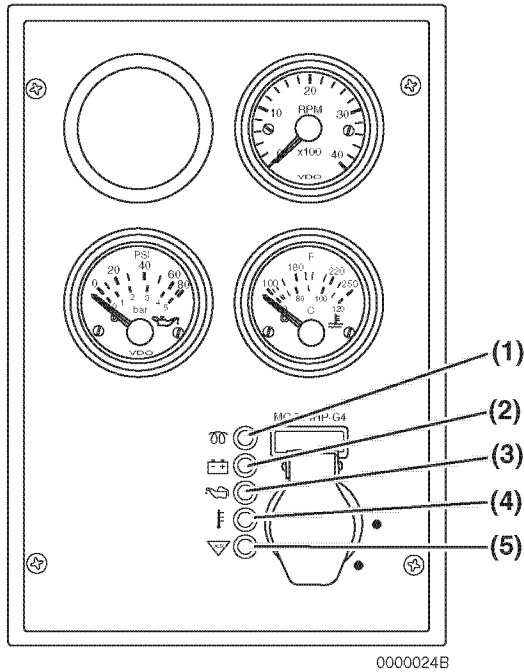
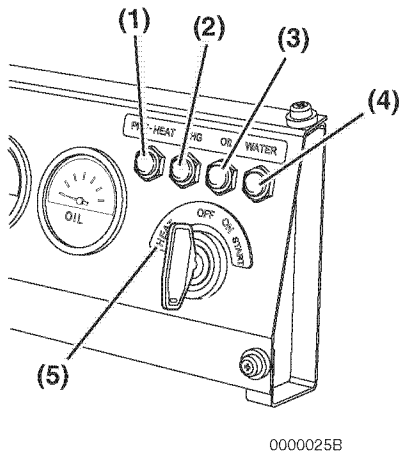

Figure 7
Figure 8
Pre-Heat (Figure 7, (1)) - The pre-heat function is automatically activated when the key switch is turned to the ON position. The indicator flashes for several seconds (IDI = 4 sec., DI = 15 sec.) and when it goes out you can turn the key switch to START.
Pre-Heat (Figure 8, (1)) - Note that on this type of panel you must turn the key to the HEAT position (**Figure 8, (5)**) to activate the inlet air heater (direct injection models) or glow plugs (indirect injection models). The indicator will flash for several seconds (IDI = 4 sec., DI = 15 sec.) when you turn the key to HEAT and when it goes out, you can turn the key switch to START.
Battery Charge (Figure 7, (2)) or (Figure 8, (2)) - This indicator will come on if there is a problem in the charging system. This indicator does not indicate if the battery is discharged. See *Troubleshooting Chart on page 103*.
Engine Oil Pressure (Figure 7, (3)) or (Figure 8, (3)) - This indicator will come on if the engine oil pressure is below or exceeds normal limits. See *Troubleshooting Chart on page 103*.
Engine Coolant Temperature (Figure 7, (4)) or (Figure 8, (4)) - This indicator will come on if the engine coolant temperature exceeds normal limits. See *Troubleshooting Chart on page 103*.
Auxiliary (Figure 7, (5)) - Used for special applications.